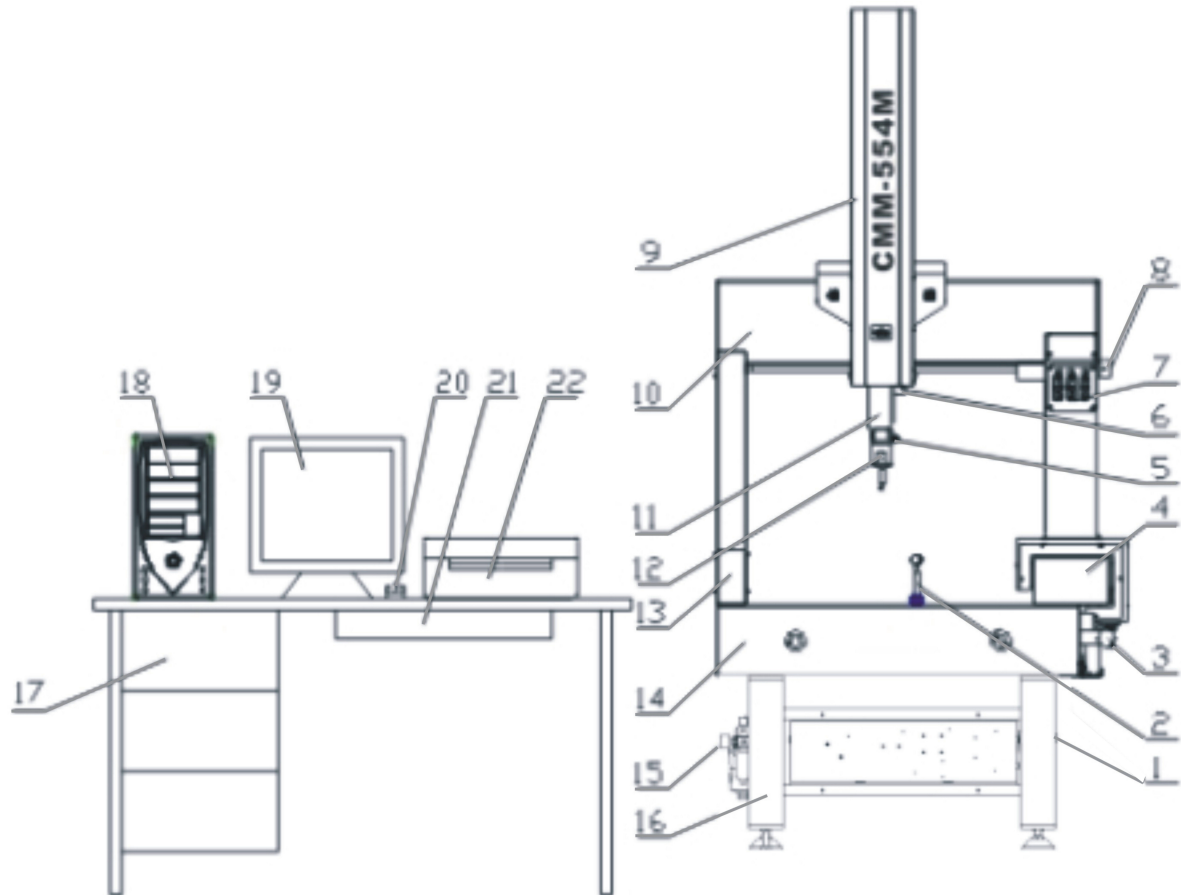

Fig.1 Overall structure of instrument
3.1 *Structure (Fig.1)*
- 1). Loosen the clamp handle on the right side of probe pedestal in the Z axis. (Item 5 in Fig.1)